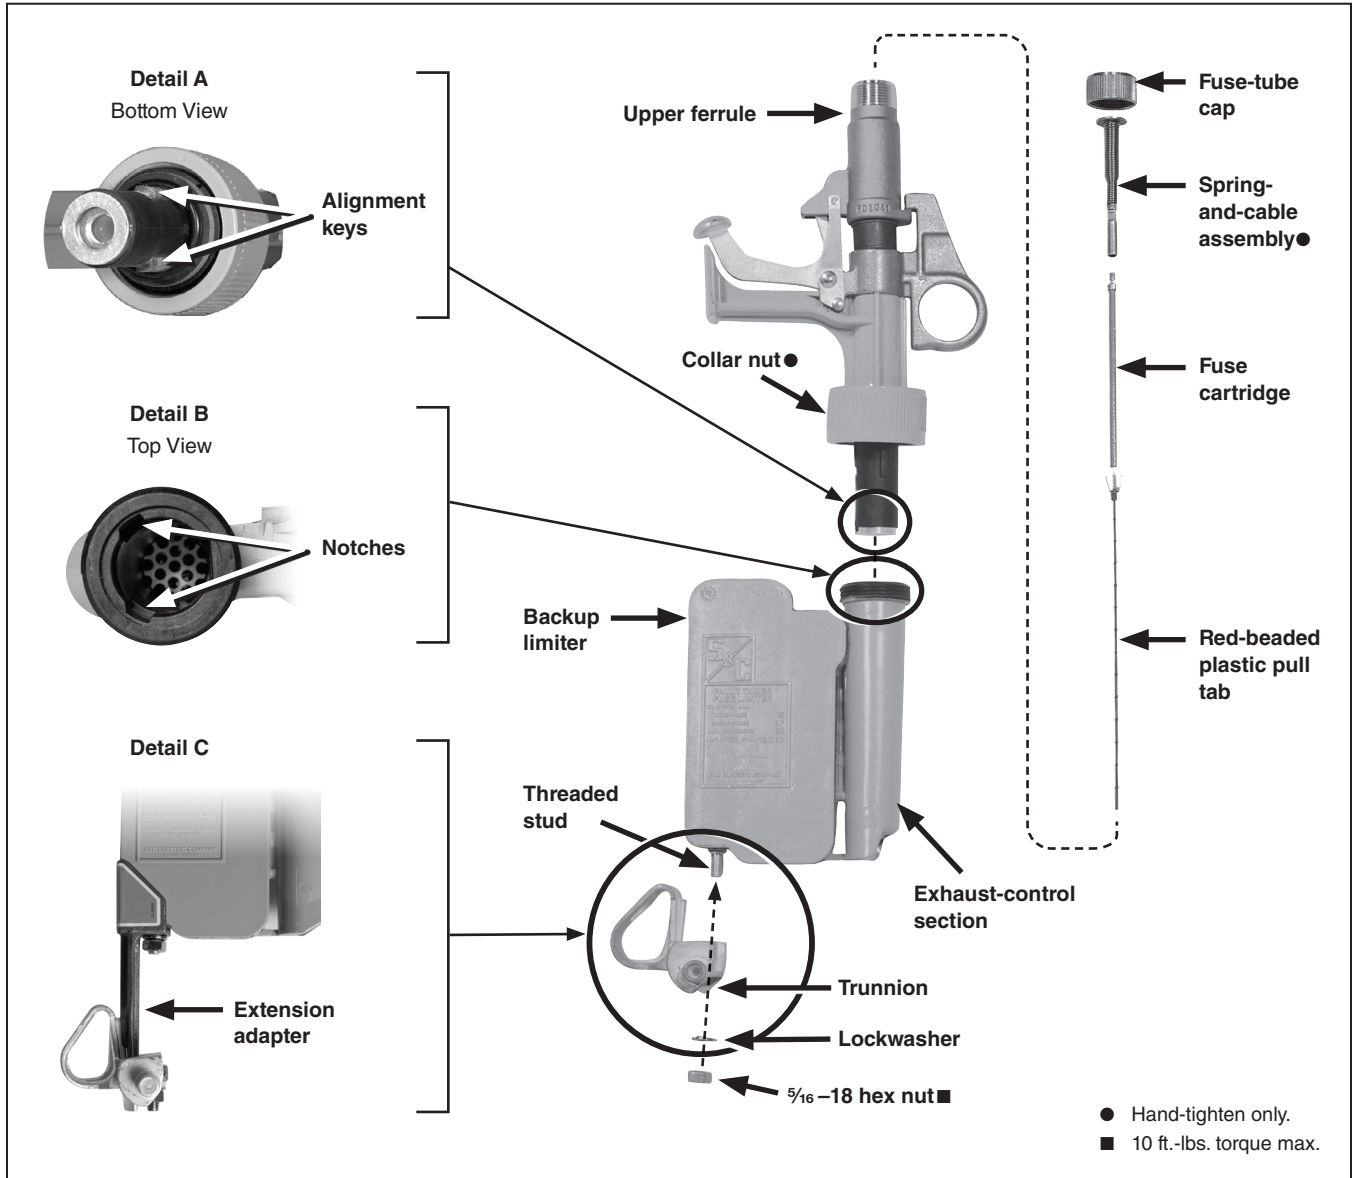

Figure 2. Fault Tamer backup limiter, fuse tube, and fuse cartridge
- STEP 3.** Pull through the red-beaded plastic pull tab until the large bead at the end of the pull tab engages with the end of the cartridge, as shown in Figure 2, and insert the entire assembly (fuse cartridge and spring-and-cable assembly) into the fuse tube. Then, screw the fuse-tube cap on the fuse-tube upper ferrule and tighten securely with pliers.
- STEP 6.** Align the keys on the fuse tube with the notches in the exhaust-control section of the backup limiter. See Figure 2, Details A and B on page 7. Insert the fuse tube into the exhaust-control section and hand-tighten the collar nut.
- STEP 7.** Attach the trunnion to the threaded stud on the backup limiter with the lockwasher and $\frac{5}{16}$ -18-inch hex nut, provided. See Figure 2 on page 7.
Remove the trunnion from the backup limiter, if installed. Save the hardware. Attach the extension adapter to the threaded stud on the backup limiter with the lockwasher and $\frac{5}{16}$ -18 hex nut provided. Then, attach the trunnion to the extension adapter with the $\frac{5}{16}$ -18x $\frac{7}{8}$ -inch hex-head cap screw, lockwasher, and $\frac{5}{16}$ -18-inch hex nut provided. See Figure 2 Detail C on page 7.
- STEP 8.** Push the upper ferrule down until it reaches a positive stop to verify full travel of the upper ferrule and the latching mechanism. See Figure 2 on page 7.